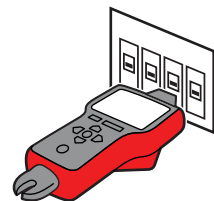

Figure 3.5b
- a) The unit will automatically start in 1 <logo> SCAN mode as shown in Figure 3.5b.